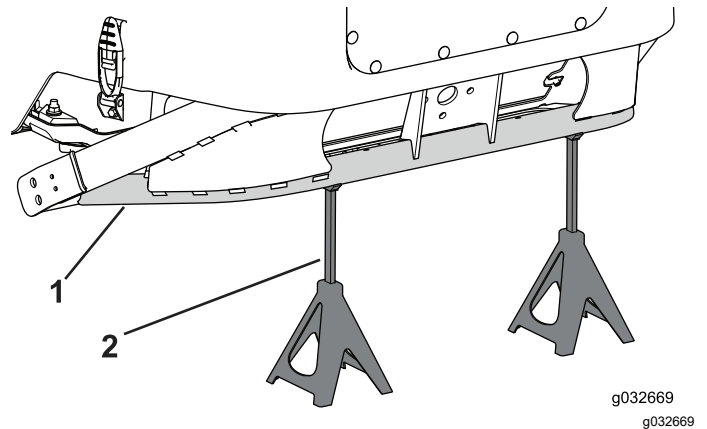

Figure 103
1. Place 2 jack stands underneath the back of machine frame (Figure 103).